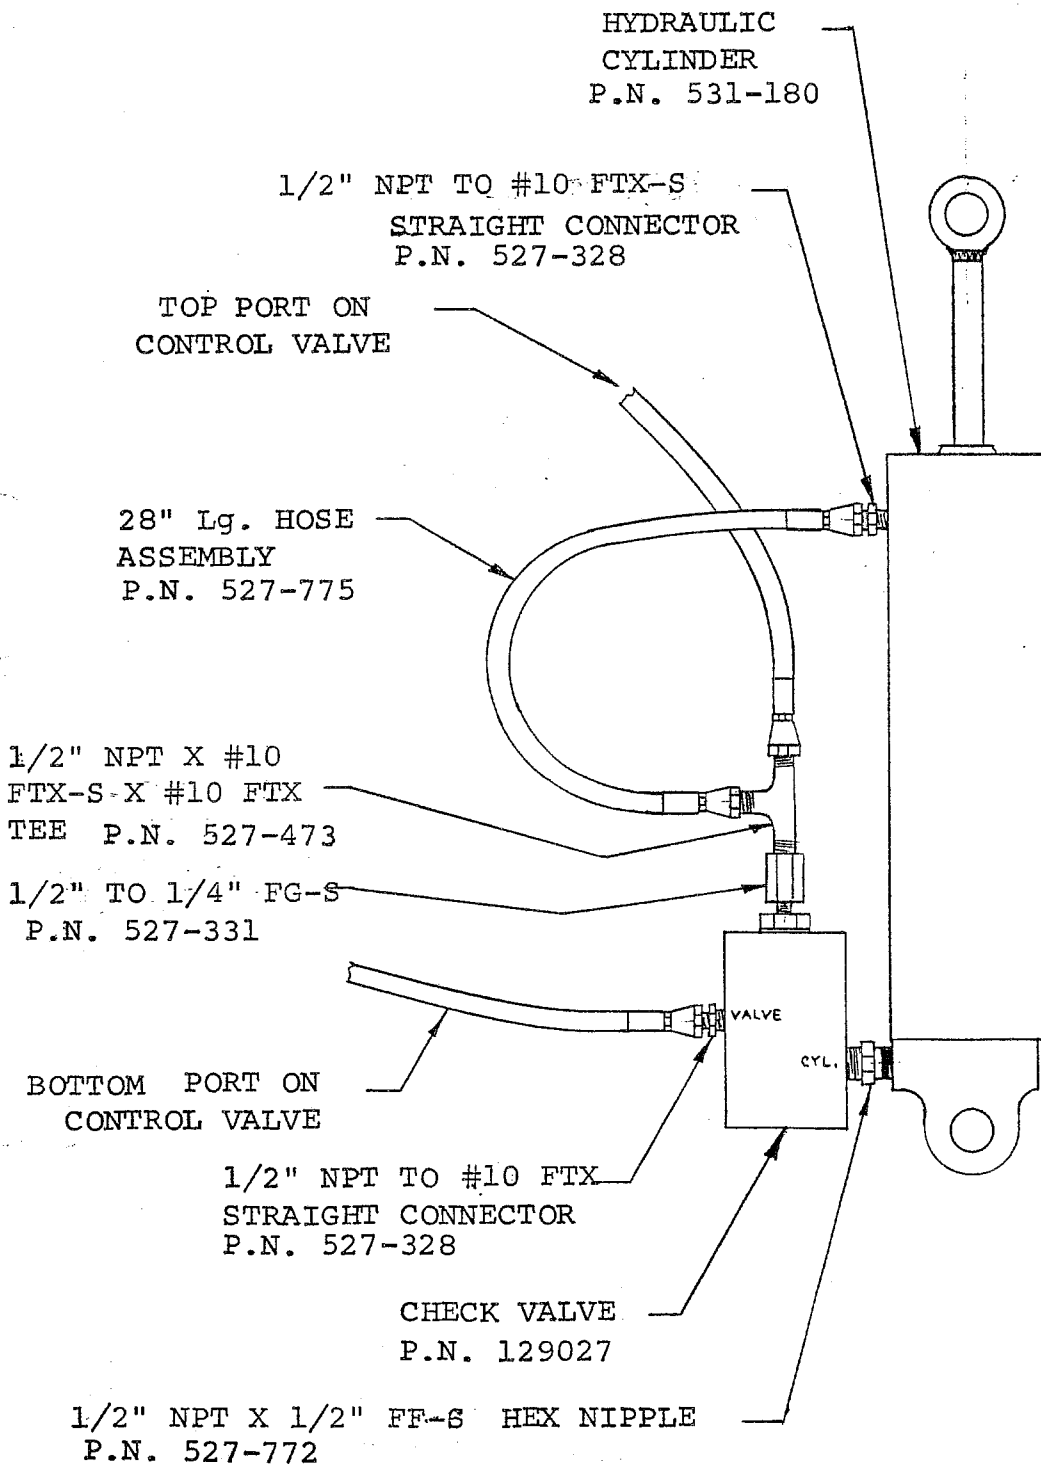

FIGURE 10
- d. Run the second 35 foot length of hose from the "BOTTOM" port on the control valve (WITH NEEDLE VALVE) to the ½" NPT to #10 tube-straight connector which is attached directly to the check valve. (SEE FIGURES 10 & 12)